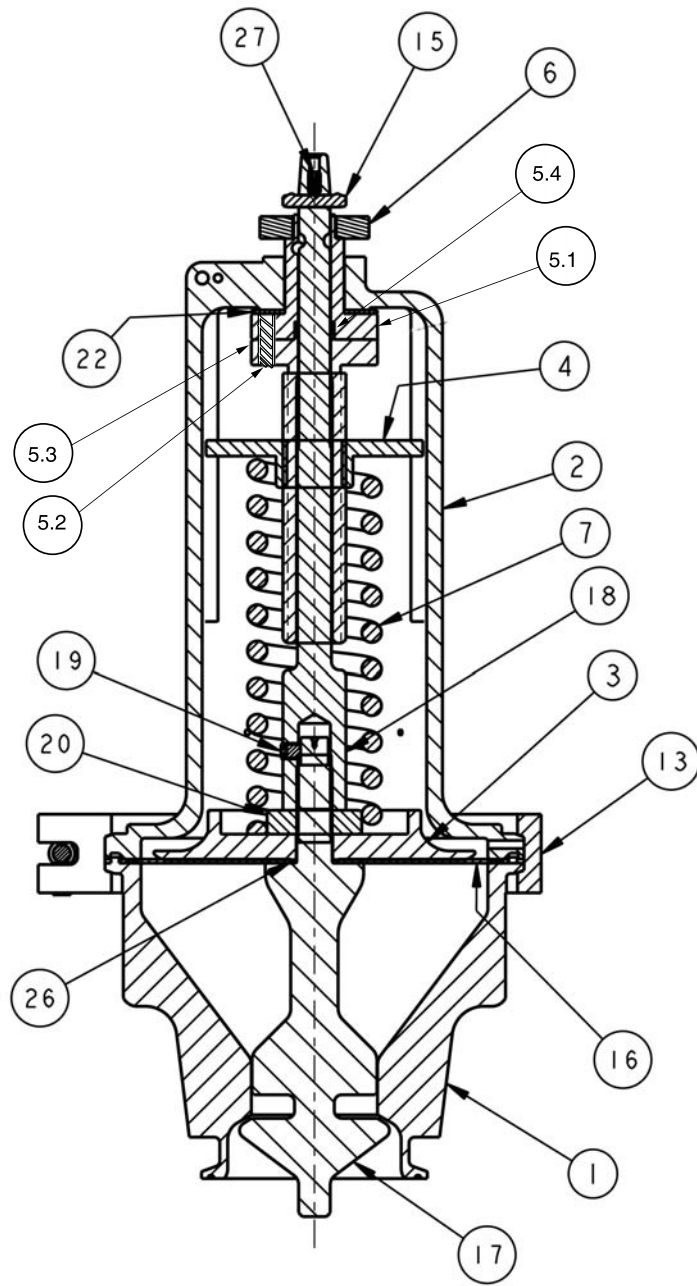

Figure 3
4. Refer to Figure 3 for basic regulator item number reference () and description.
2. Refer to Figure 3 for item number reference ().